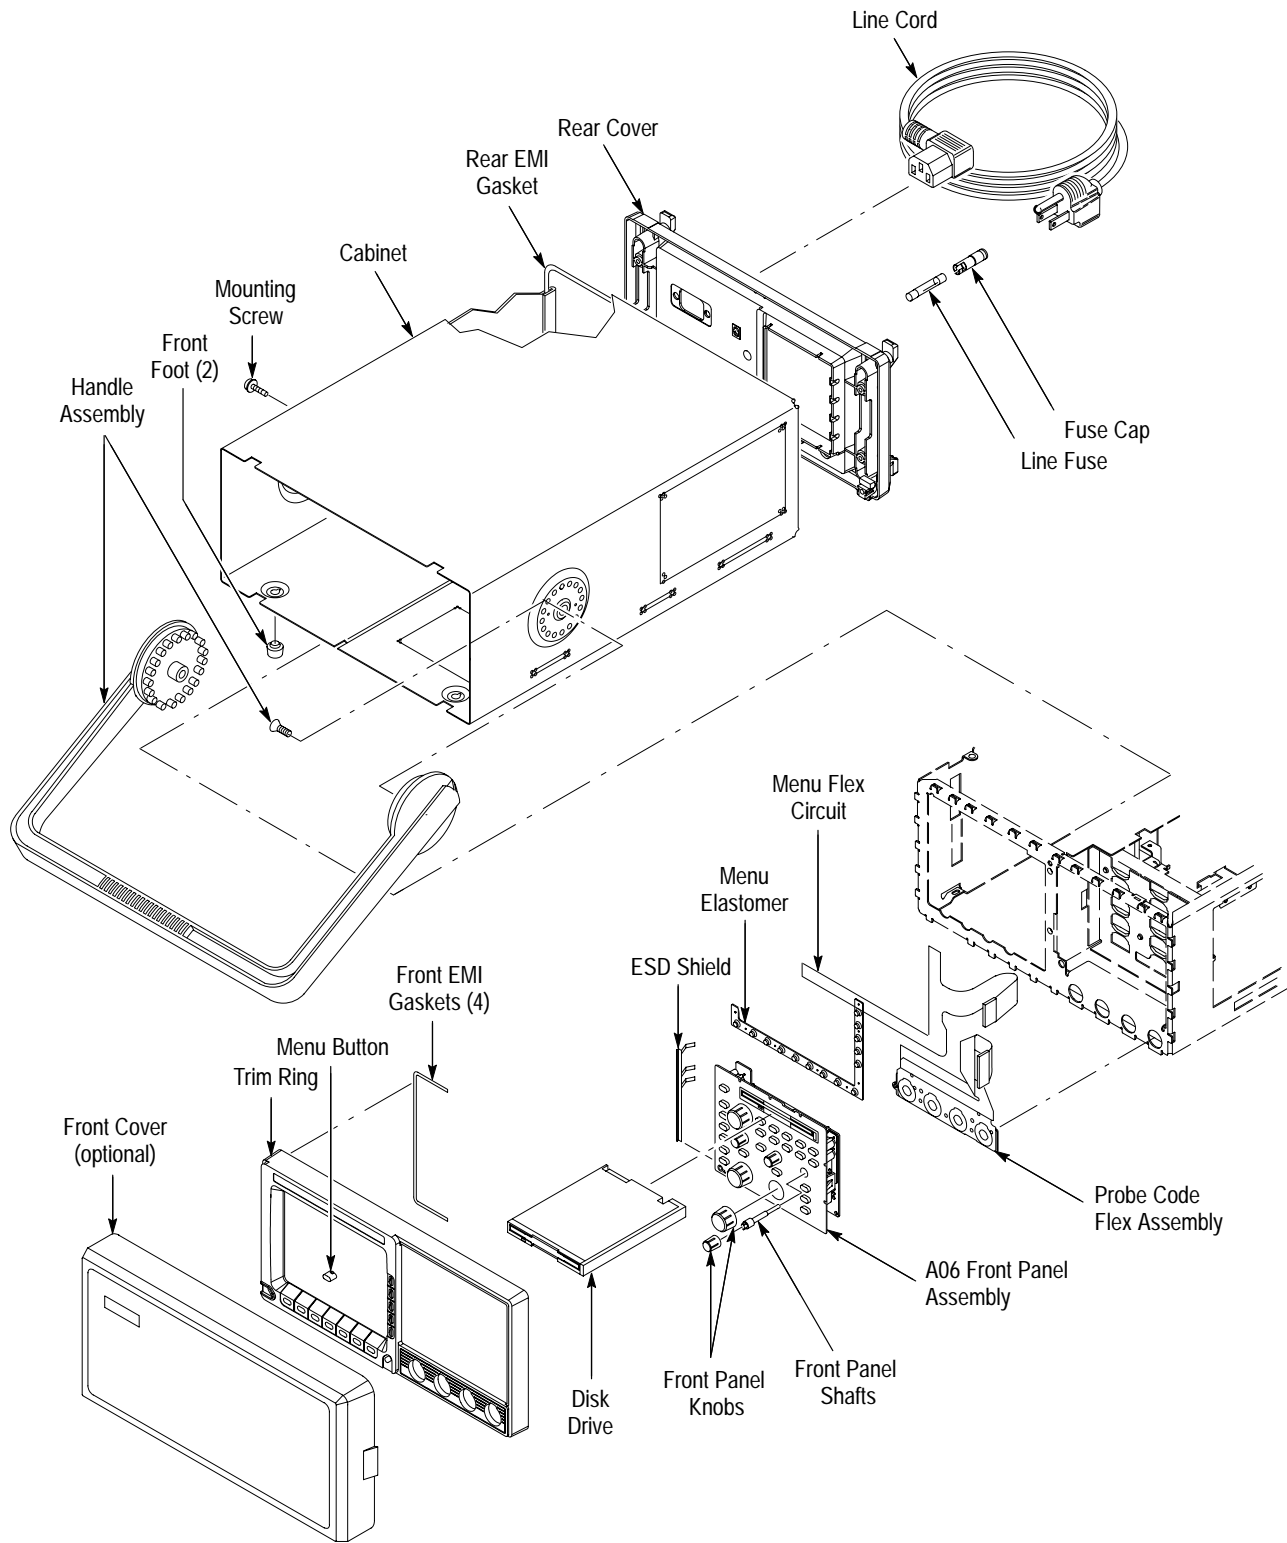

Figure 6-2: Cabinet and Front-Panel Mounted Modules
- a. Find the module to be removed in the module locator diagrams, figures 6-2, 6-3, and 6-4 (pages 6-16, 6-19, and 6-22, respectively).
- a. If you have located the module to be replaced in Figure 6-2, do the following subparts:
Table 6-5: Access Instructions for Modules in Figure 6-2
1. Assemble equipment and locate modules to be removed: Have handy a flat-bladed screwdriver (Item 5). Locate the line fuse and line cord in the locator diagram *Cabinet and Front-Panel Mounted Modules*, Figure 6-2 on page 6-16.